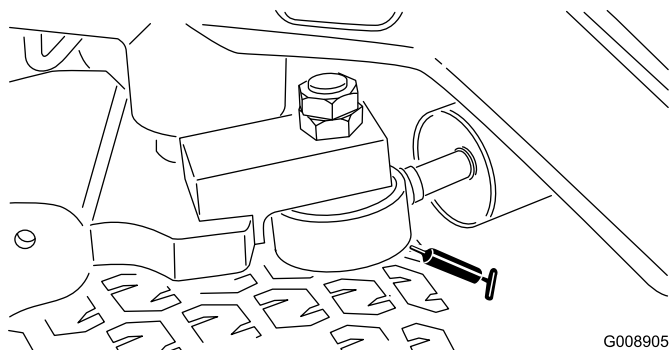

**Figure 57**
- Steering cylinder (Figure 57).